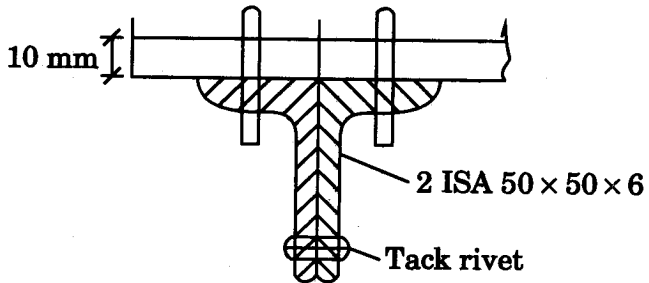

Figure 3
- (b) Calculate the design load of a discontinuous strut of 1.9 m effective length as shown in Figure 3. It consists of two equal angles ISA 50 × 50 × 6 mm and is connected to the same side of gusset plate by two rivets on each angle at both ends. Assume yield stress of 250 N/mm².